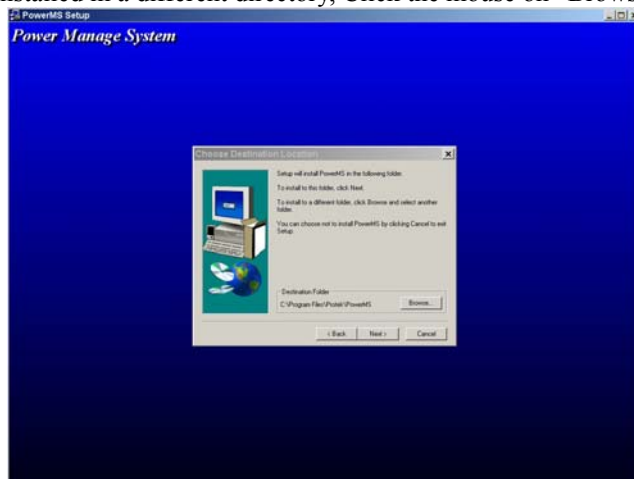

Fig. 3-4 The Installation Directory Path Set window
3.1.4 Fig. 3-4 displays the user directory the software will be installed in. The default directory path that the program will be installed in is "C:\Program Files\Array\PowerMS". If the program is to be installed in a different directory, Click the mouse on "Browse" to locate the desired directory.